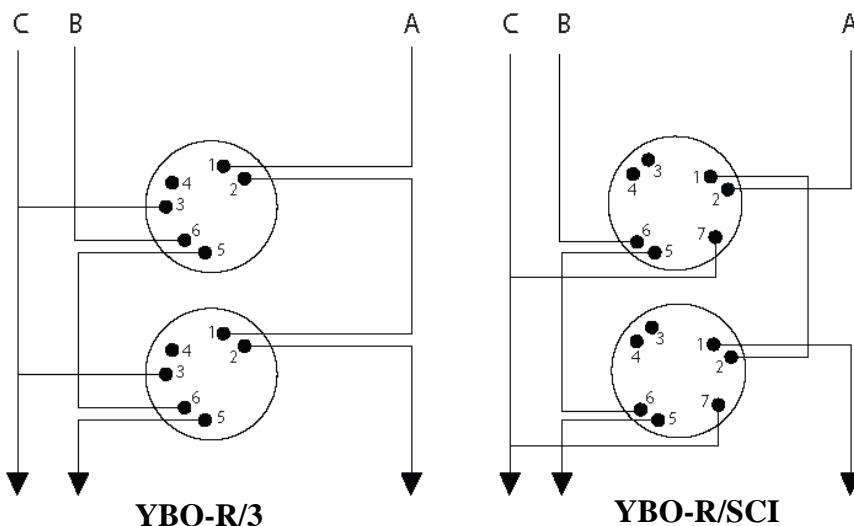

Fig 2
The bases used with the beacon should be wired as shown in Fig 2 below. The CHQ-AB can also be locked onto the relevant base by removing a plastic lug on the underside of the beacon, please refer to Fig 1. The beacon can only then be removed by using a special Removal Tool (TSC-A100/ALG) which is available from Hochiki Europe (UK) Ltd.